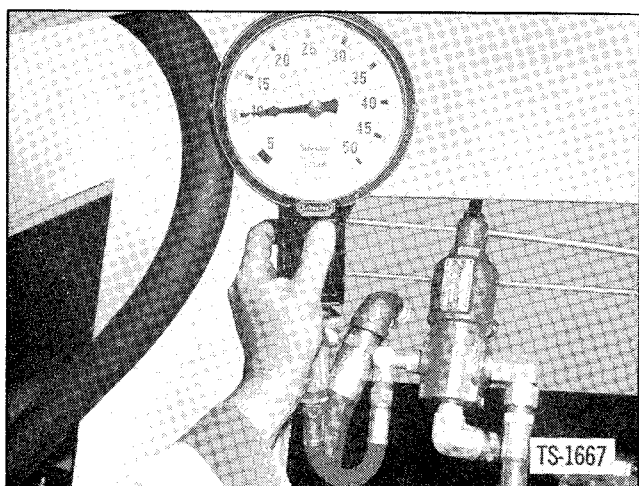

Fig. 22. Pressure Reading — Steering Relief Valve
1. Use a pressure gauge of at least 3000 psi capacity. Shut down engine, and remove plug on relief valve. Connect gauge line as shown in Figure 22.